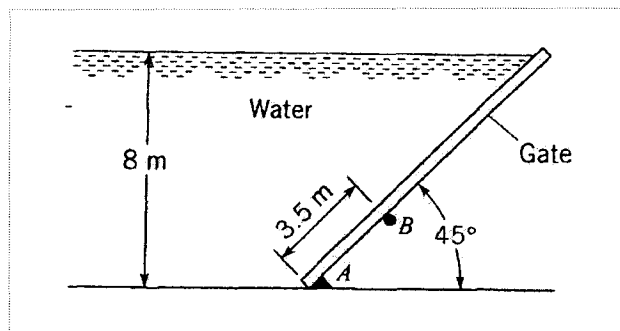

Figure 7 / Rajah 7
- [d] The plane rectangular gate can pivot about the support at B. For the conditions given in Figure 7, is it stable or unstable? Neglect the weight of the gate.